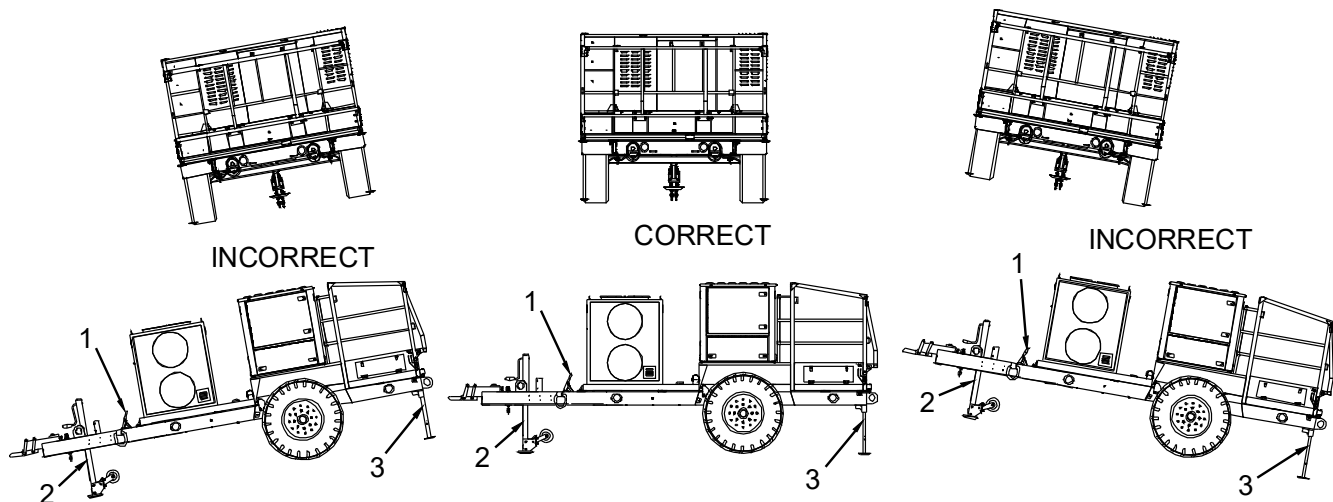

Figure 2. Correct Trailer Operating Positions.
1. After positioning trailer in an operational position, engage two handbrakes (Figure 2, Item 1).
2. Lower two rear stabilizer legs (Figure 2, Item 3). Place rear stabilizer pads as close to ground as possible.